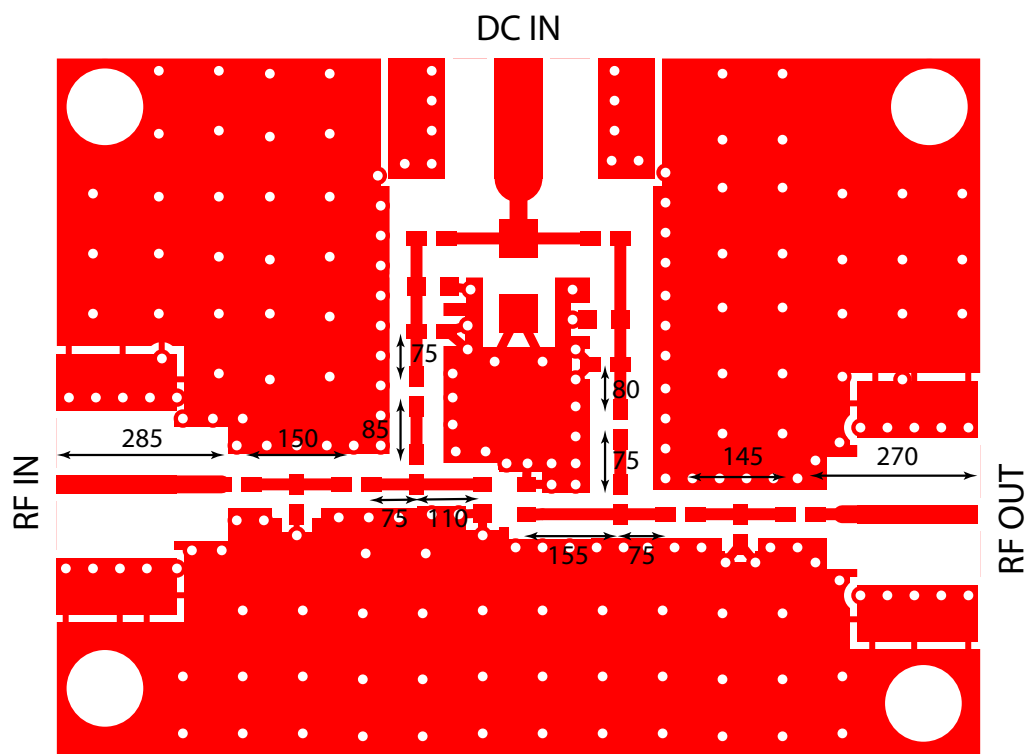

Figure 2: LNA board trace lengths. The width of the traces can be assumed to be 21 mils, above 12 mils of FR-4 ($\epsilon_r = 4.6 \pm 0.2$).
5. You will need to change the associated microstrip widths and lengths to those shown in Figure 2.
10. Make sure to add the correct line widths and lengths between components, as shown in Figure 2.